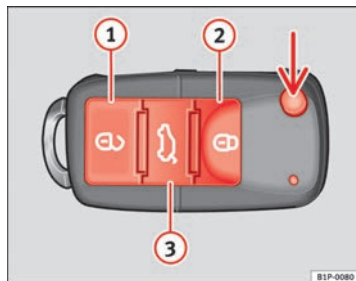

Fig. 46 Assignment of buttons on the remote control key
Using the button \Rightarrow Fig. 46 (arrow) on the control, the key blade is released.
Unlocking the vehicle \Rightarrow Fig. 46 ① .
Locking the vehicle \Rightarrow Fig. 46 ② .
Unlocking the rear lid. Press button \Rightarrow Fig. 46 ③ until all the turn signals on the vehicle flash briefly. When the unlocking button \Rightarrow Fig. 46 ③ is pressed, you have 2 minutes to open the door. Once this time has passed, it will lock again.
- Press the  button ② ⇒ Fig. 46 on the remote control.
- Press the  button ① ⇒ Fig. 46 on the remote control.